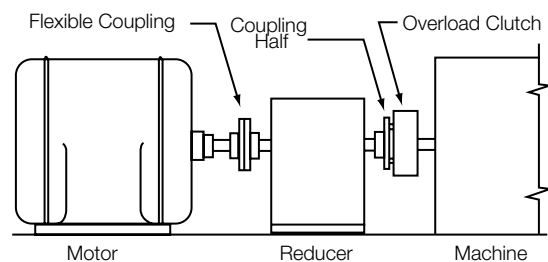

Figure 6
The clutch should always be located as close as possible to the source of an overload condition. Figures 6 through 9 indicate both preferred and not preferred locations for mounting a POR Series, H2000 pneumatic overload release clutch.
- a. Figure 6 shows the **preferred** location for mounting in a direct drive application. The clutch is mounted on the low speed side of the reducer, and transmits power from its housing, through its rotor to the driven shaft.